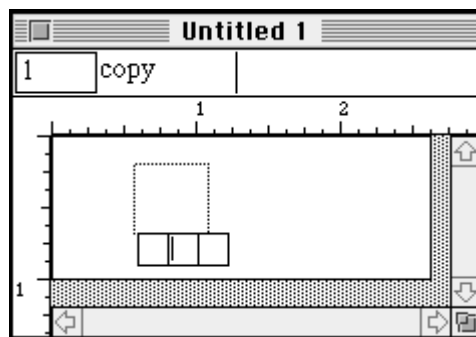

Figure 2-6 Bar Code Object
6. Click on the location in the work area where you want to place the bar code. A bar code object appears where you click. See Figure 2-6. A bar code may be placed anywhere in the Edit window, however only the white work area within the rulers will print. (This manual discusses the Edit window and work area in further detail in Chapter 4.)